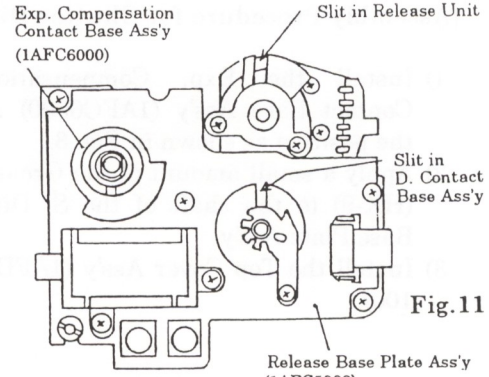

Fig. 11
- 1) Position the slit in the Main Switch area of the Release Unit (1AF52300) as shown in Fig. 11.
- 1) Install the Exp. Compensation Contact Base Ass'y (1AFC6000) in the position as shown in Fig. 11.
- 1) Position the D. Contact Base Ass'y (1AFC 6100) so that its slit is placed in the front. (See Fig. 11)